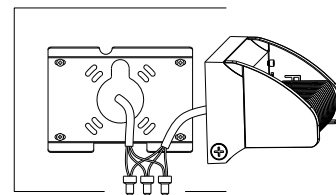

Figure 1-4
4. Make wiring connection and go through isolation treatment. (Figure 1-4)